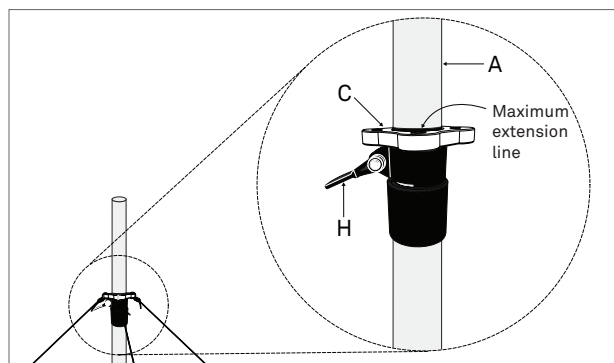

Figure 7 Locking lever (H)
2. Lift the locking lever (H) by pulling it up (Figure 7).
3. Raise the top portion of the mast (E) to the desired height.
NOTE: The height should be no higher than when the maximum extension line is level with the guy rope ring (G) (Figure 7). If the mast (E) is raised higher than it is supposed to be, the top portion of the mast (E) will be unstable.
4. Lower locking lever (H).